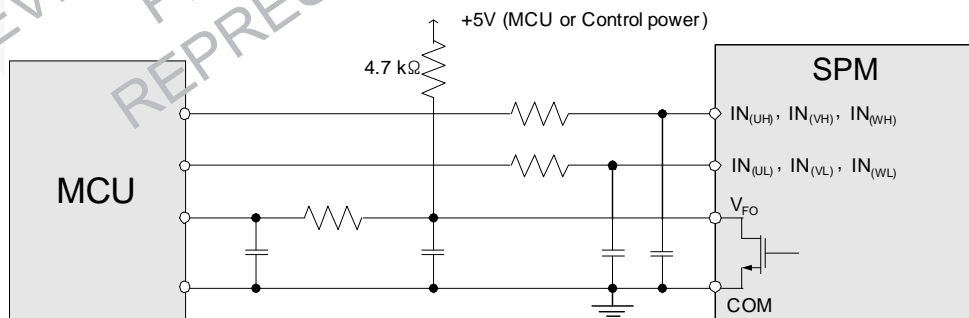

Figure 13. Recommended CPU I/O Interface Circuit
14. V_{FC} output is open-drain type. This signal line should be pulled up to the positive side of the MCU or control power supply with a resistor that makes I_{FO} up to 2 mA. Please refer to Figure 13.